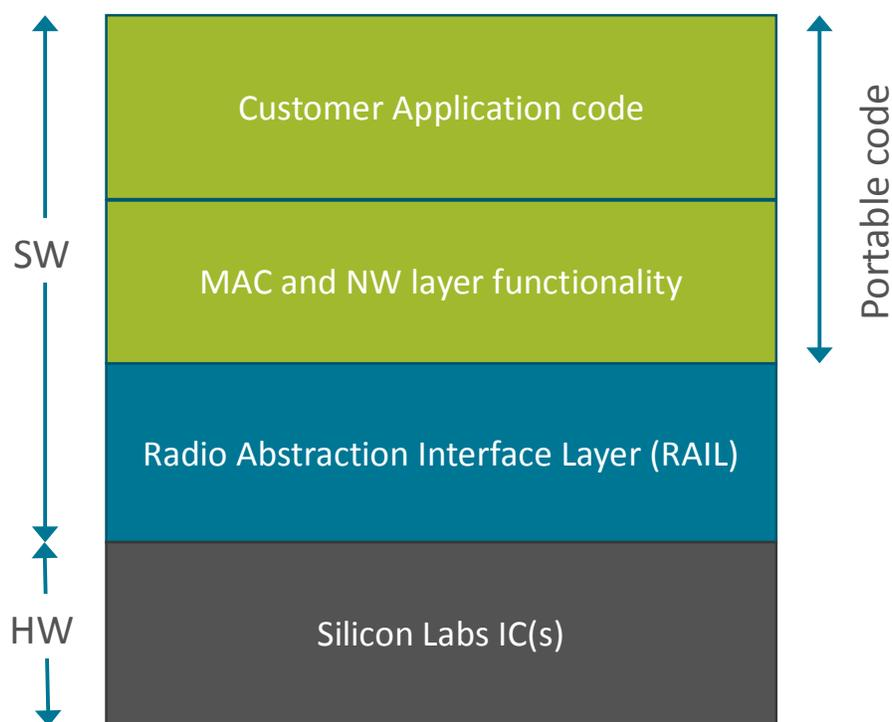

Figure 1. RAIL Stack Structure
- The RAIL library: Provides a programming interface to radio functionality, as shown in Figure 1.